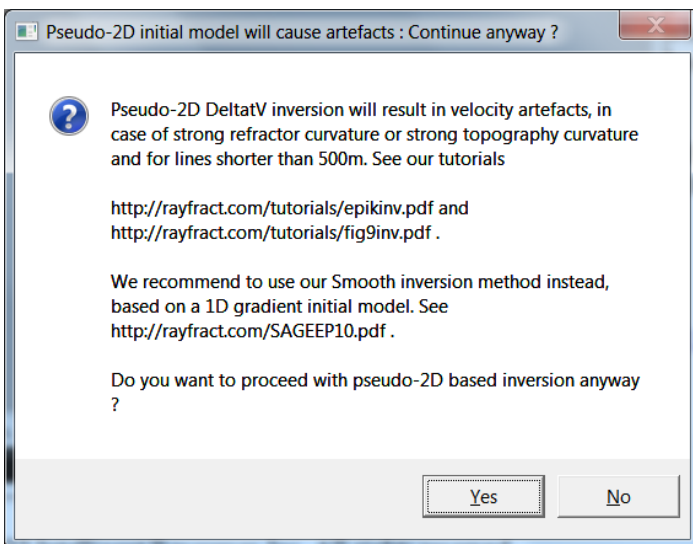

Fig. 14 : artefact warning prompt shown when user selects *DeltatV* menu items, recommending using *Smooth* inversion method instead.
- select *DeltatV*|*Automatic DeltatV* and confirm artefacts warning prompt (Fig. 14) to obtain Fig. 5.
In general we always recommend preferring our default and fail-safe ***Smooth inversion*** method as shown on next page (Sheehan et al. 2005). See the warning prompt shown with *DeltatV* menu items (Fig. 14).